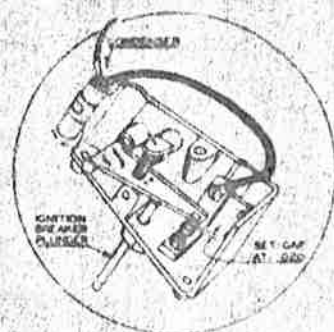

Figure 3. Ignition Breaker Mechanism with the cover removed.
9. Ignition—Remove the cover from the ignition point breaker mechanism. Turn the engine over by hand until the breaker points are at their widest open position. Clean the points; set the gap at 0.020" unless otherwise specified on the breaker point cover. See Figure 3. This specified setting is very important, do not guess at the setting.